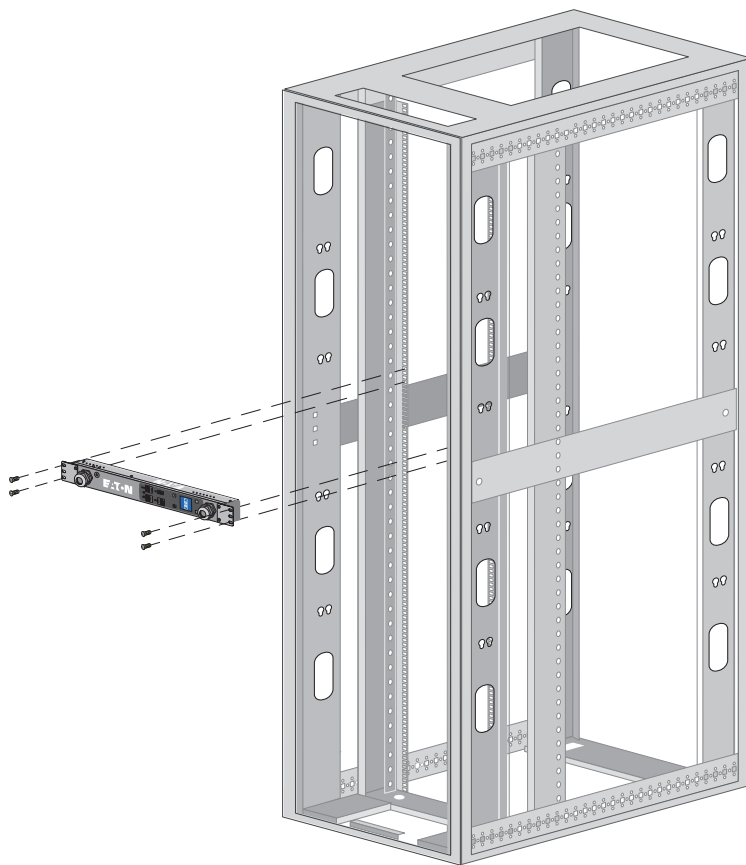

Figure 24. Installing Horizontal Models
3. **For all other racks.** Insert and tighten two M6 screws through the ears on each side of the ePDU (see Figure 24).